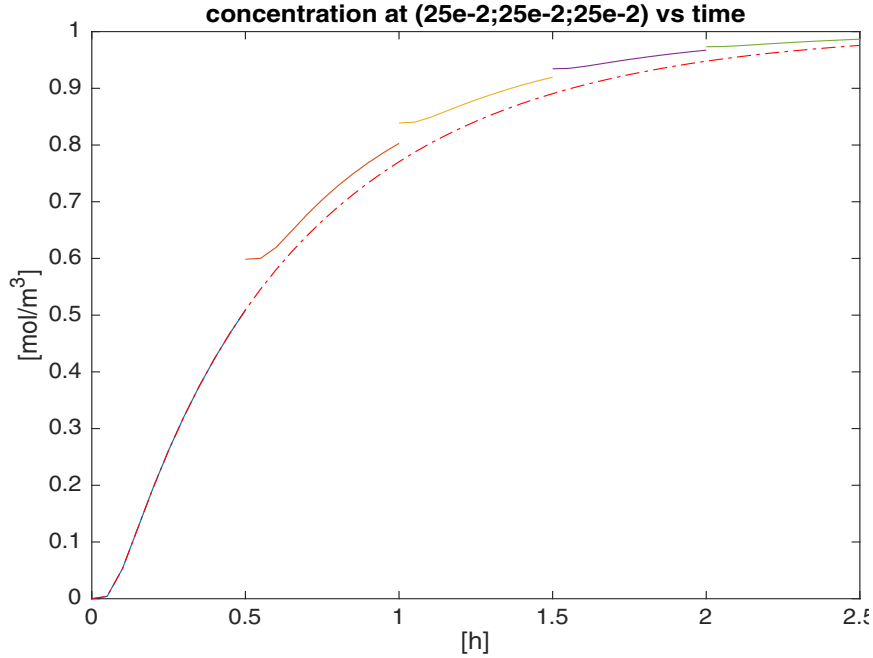

Figure 2: Evolution of the species concentration at (0.25m, 0.25m, 0.25m)
Figure 2 shows the concentration at the center of the top surface, defined by the coordinates (0.25m; 0.25m; 0.25m). The solid line denotes the concentration with the
- 5 To obtain data for the plot shown in Figure 2 extract the concentration value at the specified location. Use the function **mphinterp** as shown below: